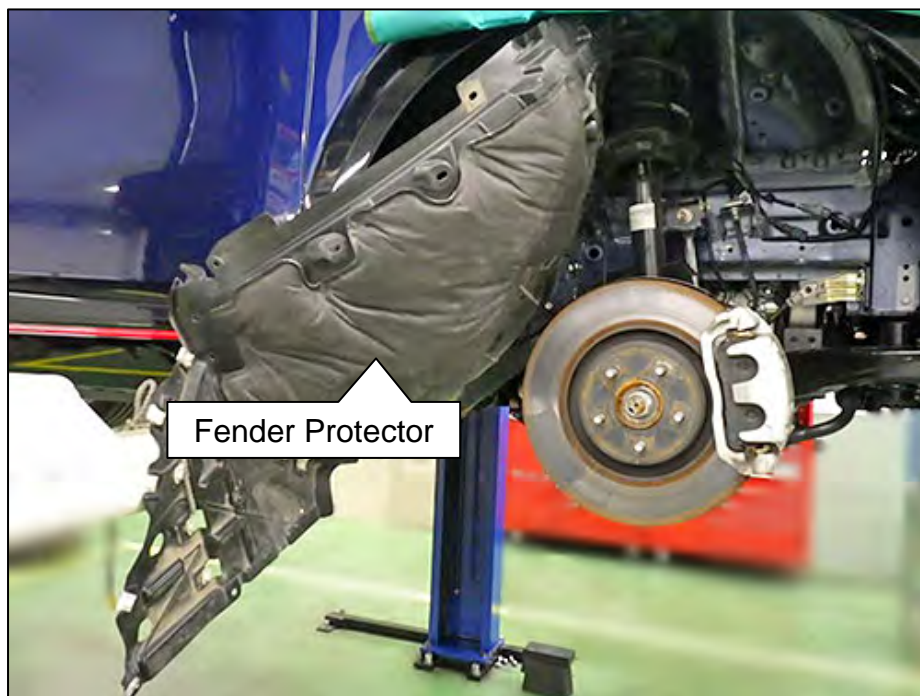
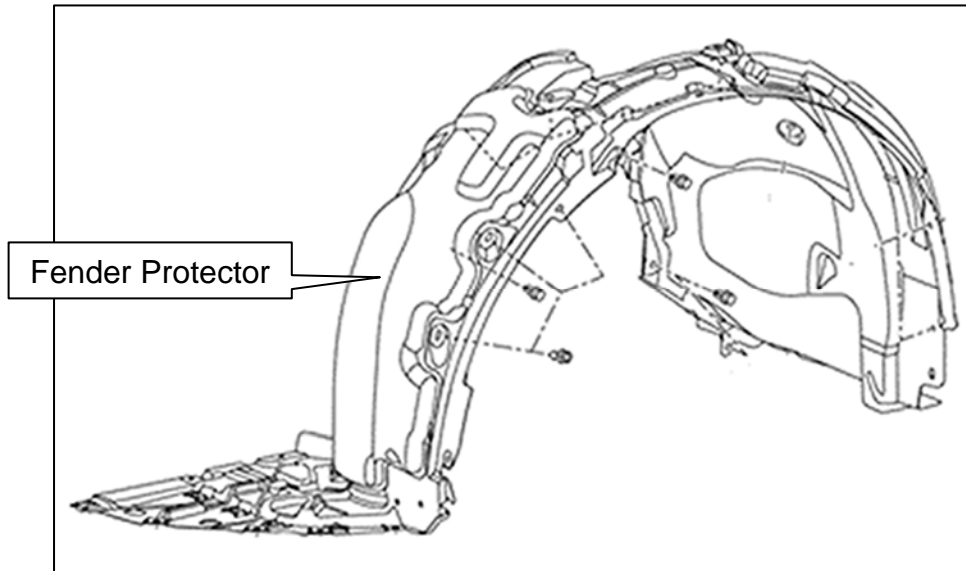

Figure 162
Figure 163
- Eight (8) clips.
- Figure 162 below, and Figure 163 on page 82.